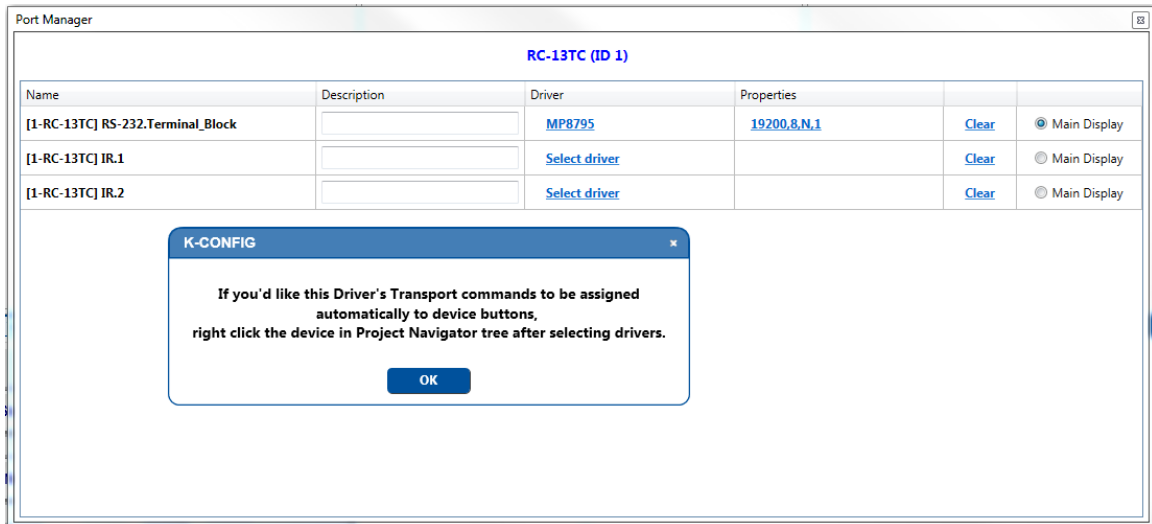

Figure 113: Set Automatic Behavior – Port Manager Example
3. In the Port Manager window, assign the drivers to the port (see Section 7) as shown in the example in Figure 113. Each time you add a driver you will get a message referring to the automatic behavior setup.